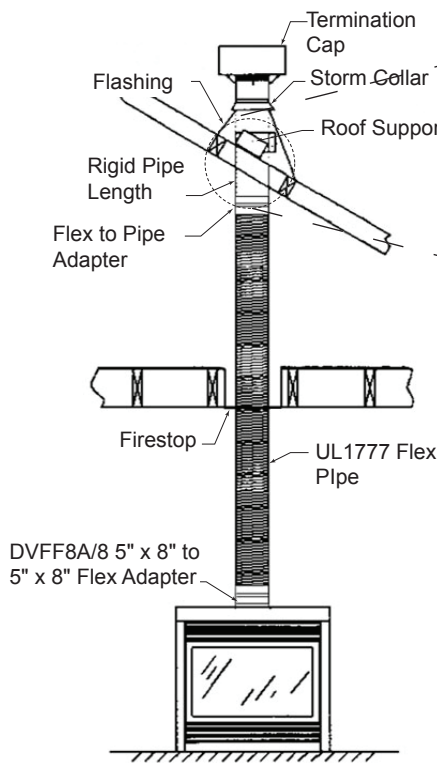

Figure 38 - Typical Vertical Flex Vent Installation
2. Install firestop spacers, *Figure 38*, when penetrating ceiling, attic spaces, or walls.
4. Use only listed and approved terminations and accessories, installed per the installation instructions and Figure 38.